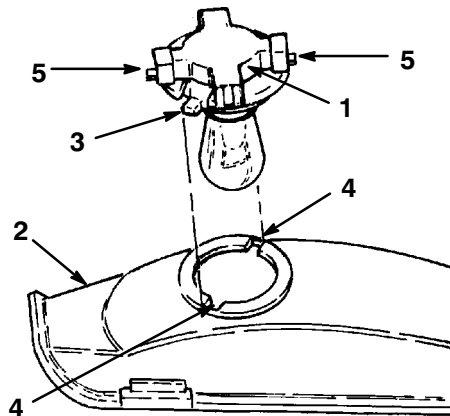

Figure 48
3. Rotate the bulb holder 1/4 turn counterclockwise and remove it from the reflector (Fig. 48).
2. The bulb holder has two tabs (Fig. 48). Align the tabs with the slots in the reflector, insert the bulb holder into the reflector and rotate it 1/4 turn clockwise until it stops.